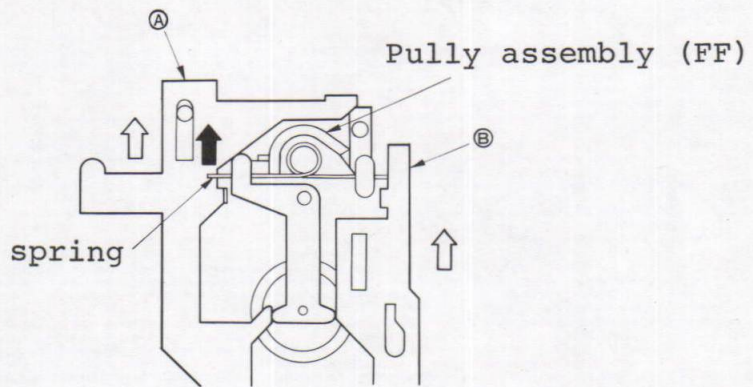
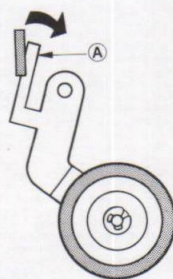

Fig. 11
Fig. 12
- (f) Take the spring out by turning the spring shown in Fig. 11 (disassembling diagram No. 64) in the direction shown by the arrow.
- (g) Remove the links (A) and (B) shown in Fig.11 (disassembling diagram Nos. 44, 45) by pushing them up in the direction shown by the arrow.
- (h) Remove the idler assembly (FF) (disassembling diagram No. 13)
Draw it out by making (A) shown in Fig. 12 bend in the direction shown by the arrow.
- (i) Removing of the idler assembly (PLAY) in accordance with (h) makes it possible to remove the pulley assembly (FF) shown in Fig. 11.